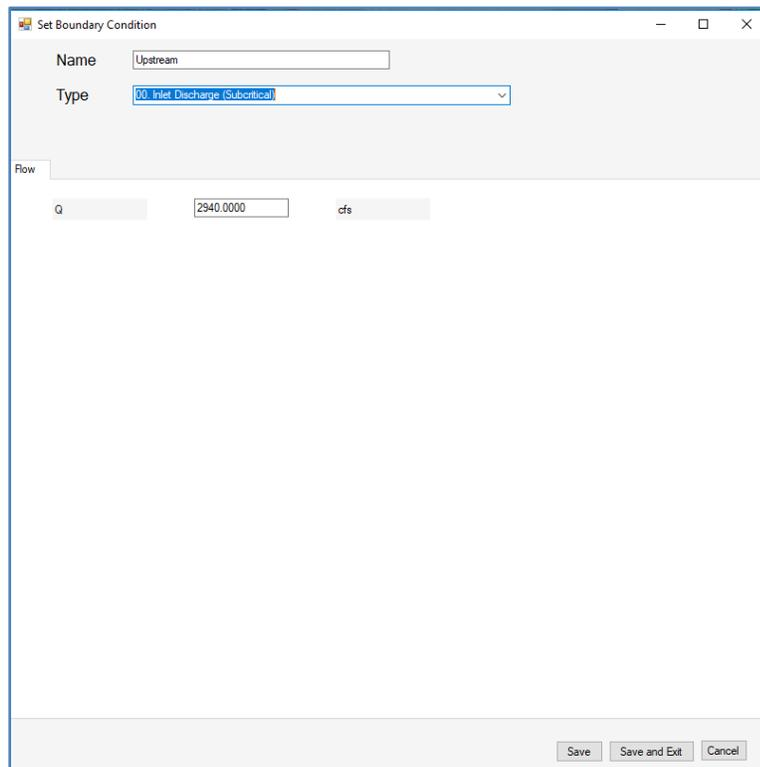

Figure 3-33. Boundary condition input form.
1. Right-click the name of the BC line in the table of contents. A form will appear (Figure 3-33).